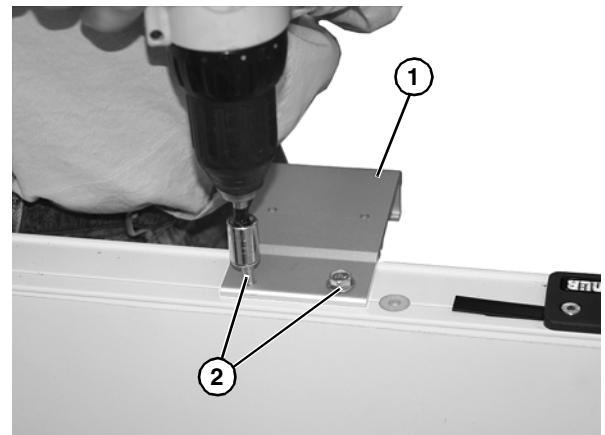

Figure 20
3. Position and hold bracket (**Figure 20, item 1**) to side rail. With a standard M6-1.0 or 1/4-20 screw, install screws (**Figure 20, item 2**) with cordless drill or equivalent. Do not fully tighten with drill.